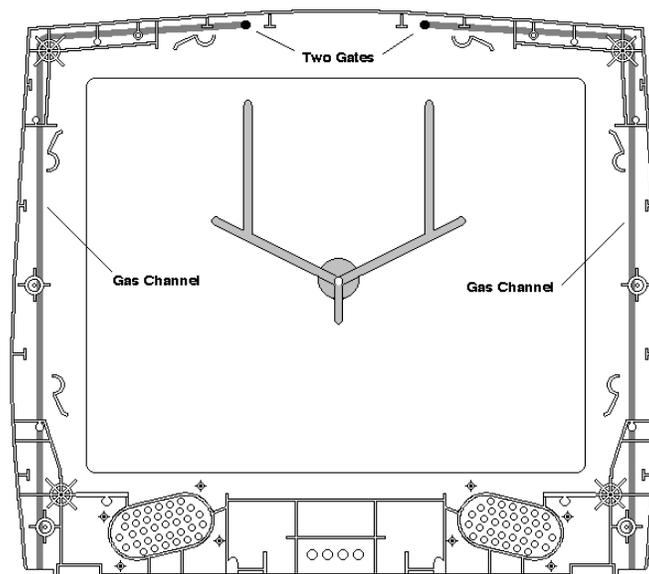

Fig. 322-3B
We convinced the molder we could solve all of these problems by converting this part to gas assist. The first step in the conversion was to weld up six of the eight runners and gates. We recommended that only two gates at the top of the cabinet would be necessary with gas assist. Gas channels were then cut in the core half of the tool, from the two gates, through the CRT mounting bosses, down the sides of the cabinet and into the vented pan. The size of these channels was 2 ½ times the nominal wall thickness, including the nominal wall. (See Fig. 322-3B)
**FIGURE 322-3B** To convert to gas assist, six of the eight runners were welded, leaving two gates at the top of the cabinet. Gas channels were then cut in the core half of the tool.